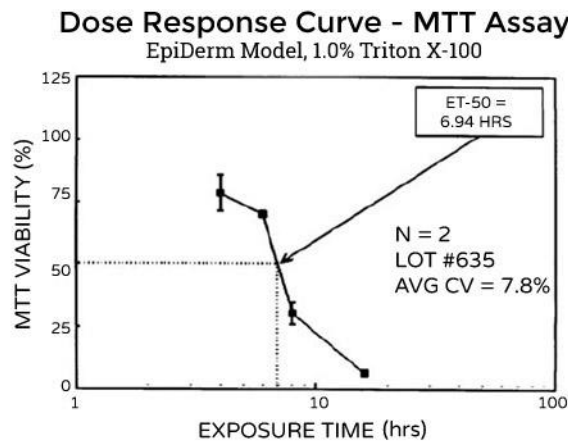

Figure 4: Graphical Depiction of ET-50 Determination - Typical Dose
l) **Positive control:** 1.0% Triton X-100 is provided with the kit. The typical ET-50 falls between 3.7 and 7.0 hours. See Figure 4. Recommended dosing times are 3 and 7 hours. Alternatively, MatTek tests every lot of EpiDerm with 1.0% Triton X-100 – these data are available by late Wednesday each week.
e) **Construct dose response curve:** Using a semi-log scale, plot the % viability (linear y axis) versus the dosing time (log x axis). By interpolation, the time at which the % viability has dropped to 50% is considered the "rough" ET-50 value. See Figure 4.